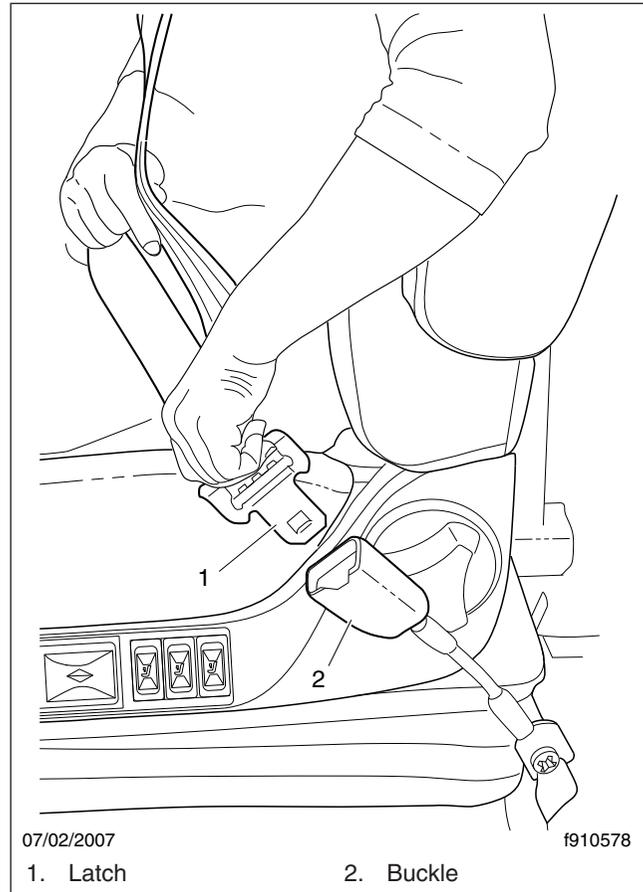

Fig. 9.8, Three-Point Seat Belt Operation
1. Slowly pull the link end of the seat belt out of the retractor and pull it across your lap (from outboard to inboard) far enough to engage the buckle. If the retractor locks too soon, allow the belt to retract slightly, then slowly pull it out again. See **Fig. 9.8**.